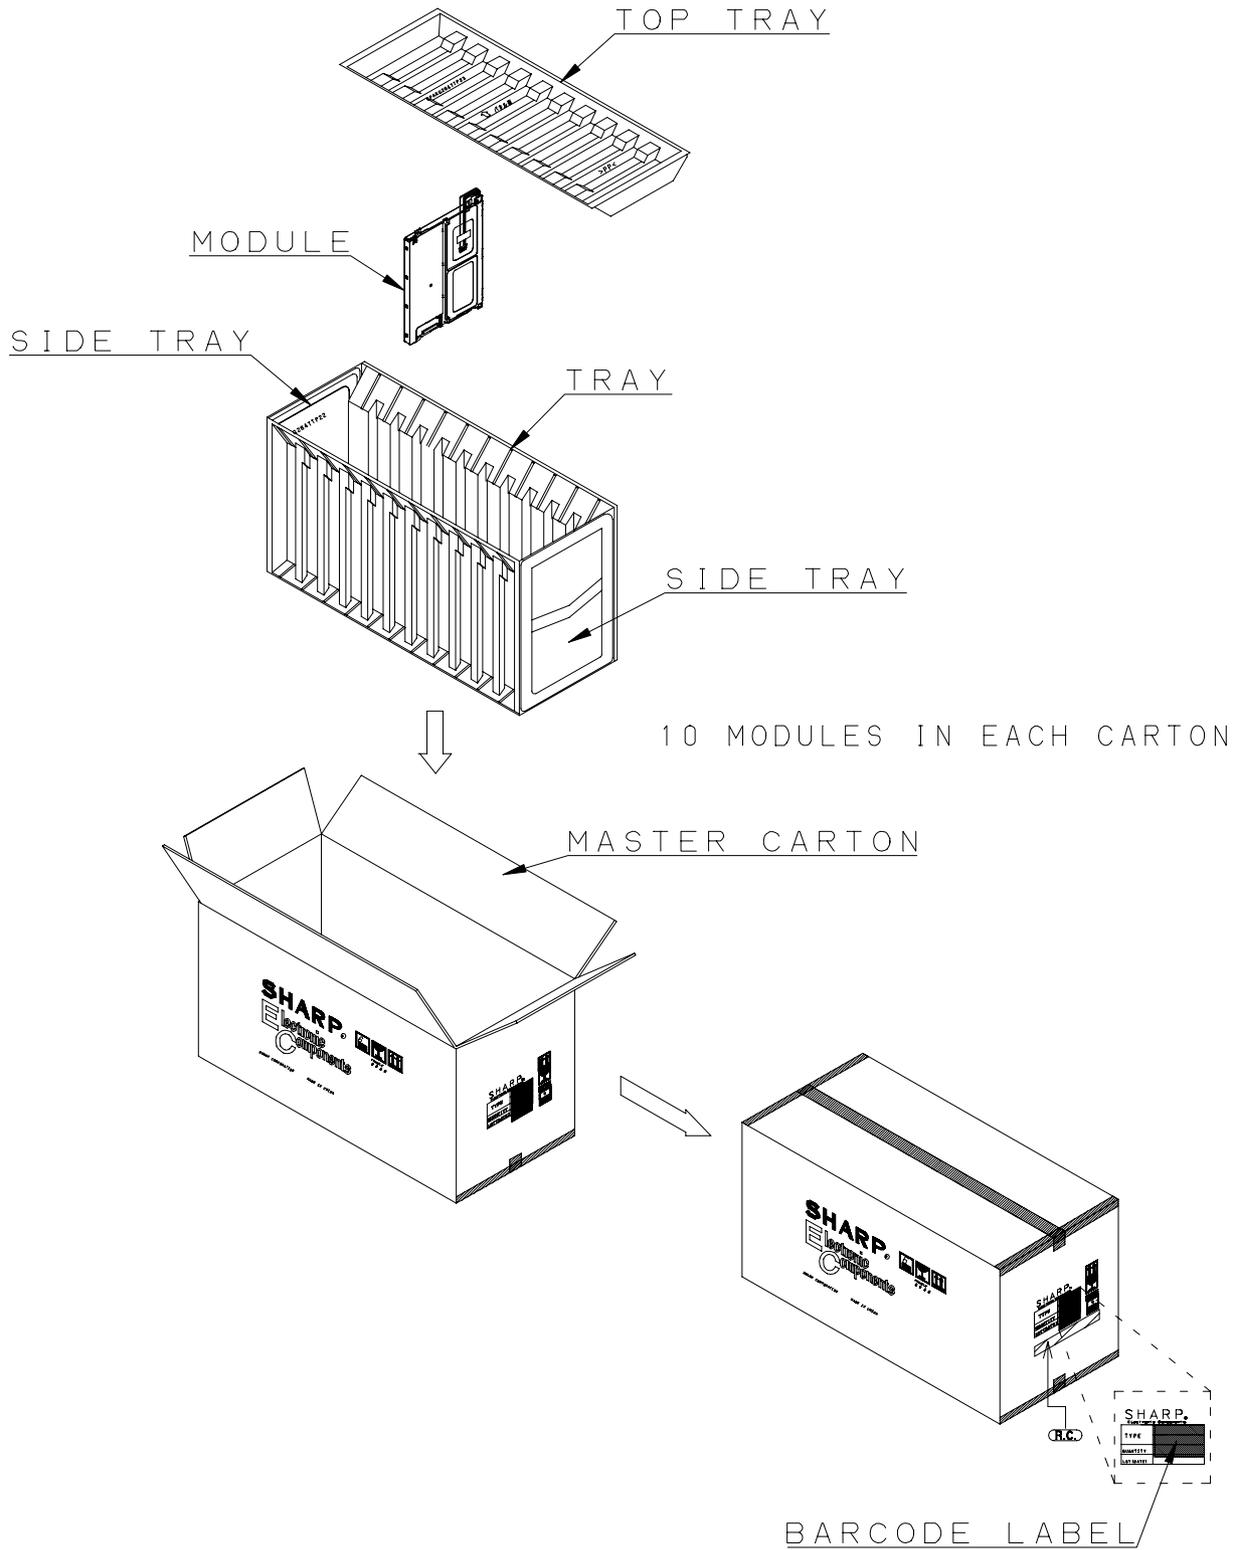

FIG. 3 PACKING FORM
- c) Carton size: 408mm (W) x 203mm (D) x 244mm (H)
- e) Fig.3 shows packaging form.